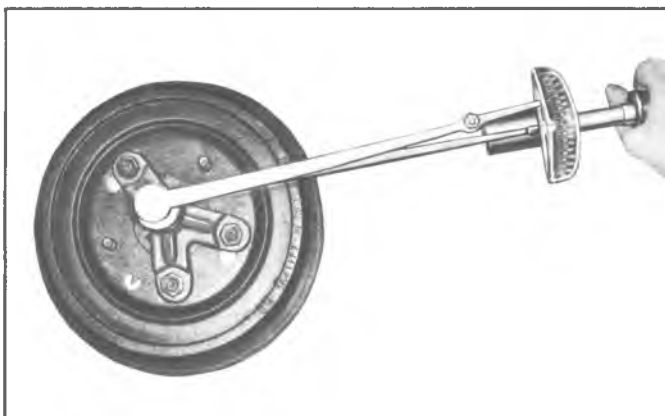

Fig. 15D—Measuring Positraction Rotating Torque
- b. Attach Adapter J-5748 to axle shaft flange and install a 1/2-13 bolt into adapter, shown in Figure 15D.